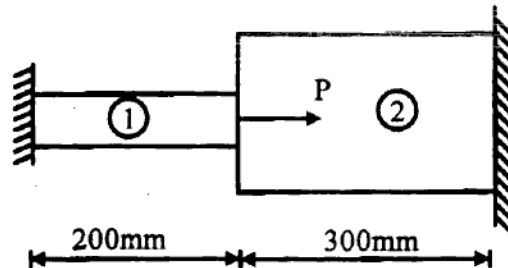

Fig. Q. 4
b) Derive the expression for the element strain displacement matrix (B) for the two noded 1D bar element. 7
4. An axial load of $P = 350 \text{ kN}$ is applied at 20°C to the rod shown in fig. Q. 4. The temperature is then raised to 60°C . Determine the element stresses. 13